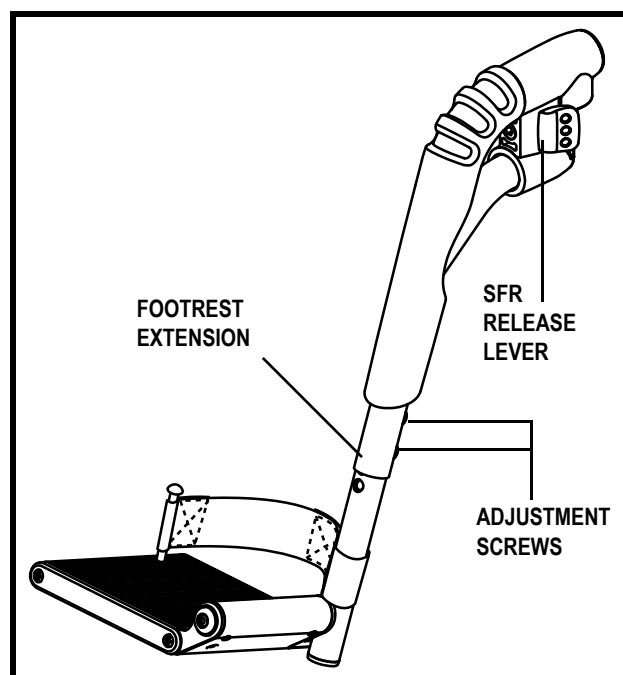

Figure 22. Swing-Away Footrests
1. Remove the adjustment screw(s) from the footrest extension. See **figure 22**.